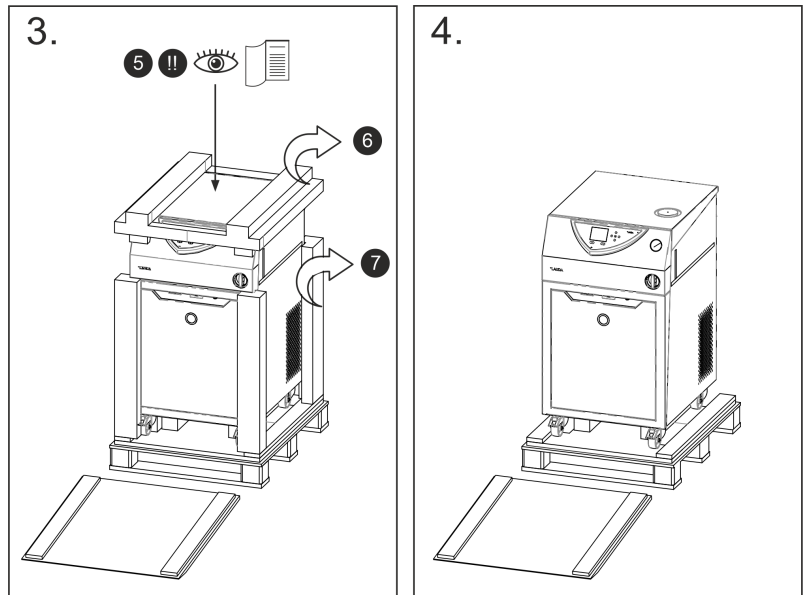

Fig. 3: Graphic of unpacking instructions for VC 5000
4. **Fig. 3:** The operating manual is lying on the device ⑤. You will need this.